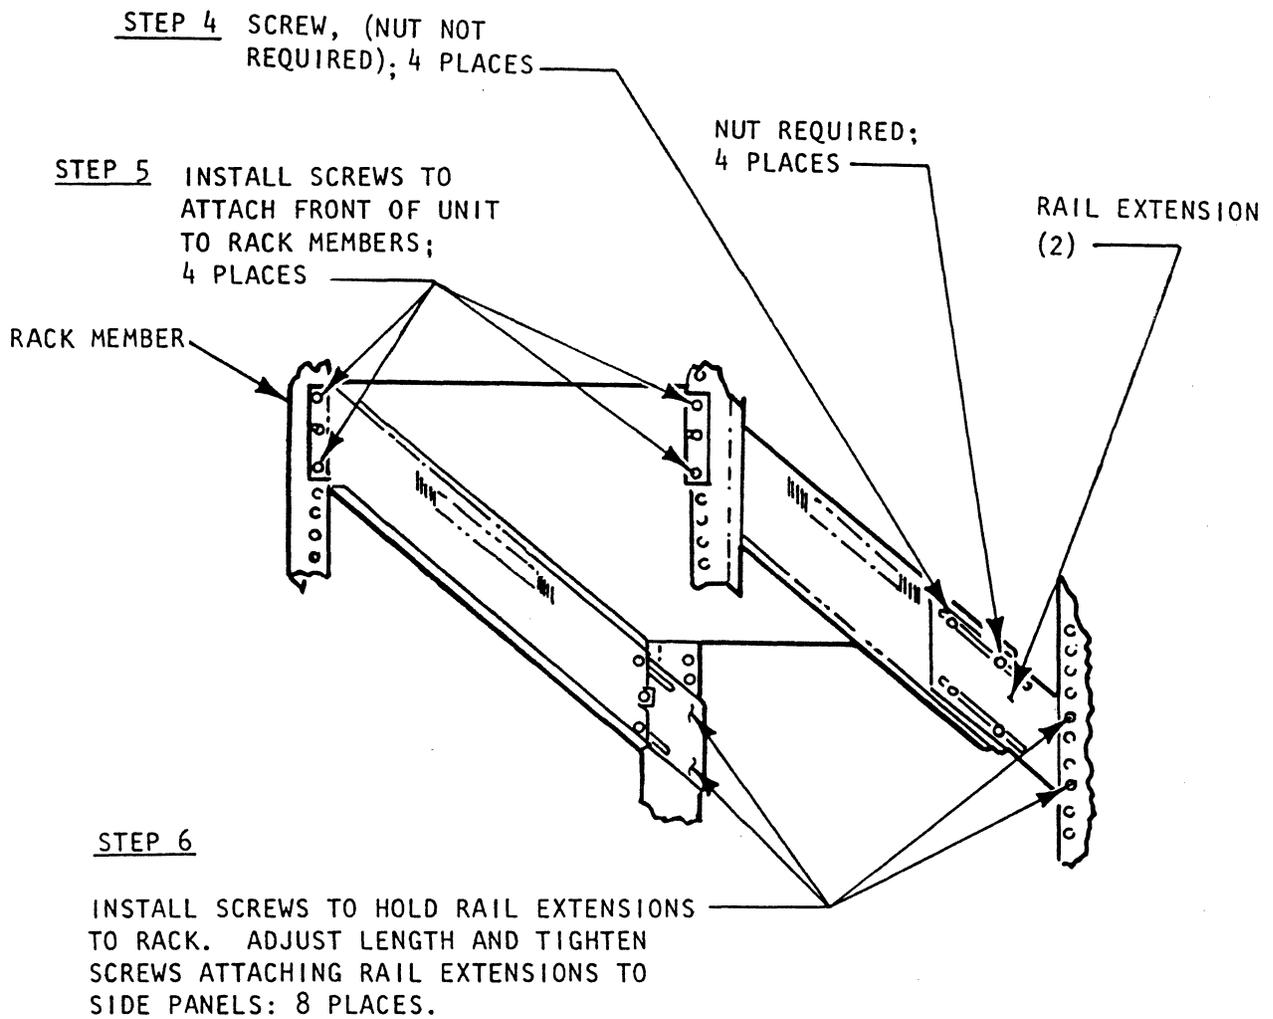

Figure 2-1c. Rack Installation
- Step 4. Two side rail extensions are provided in the accessory kit. Attach a side rail extension to each side of the top/sides assembly with the eight screws provided, but leave the screws loose (see Figure 2-1c).
- Step 5. Install the top/sides assembly in the rack using four screws each in front of rack (see Figure 2-1c).
Step 6. Install four screws attaching the rail extensions to the rear of the rack. Adjust the length of the two rail extensions by extending or closing them until the length of the side rails matches the rack (front to rear) as shown in Figure 2-1c. Tighten all rail extension screws.